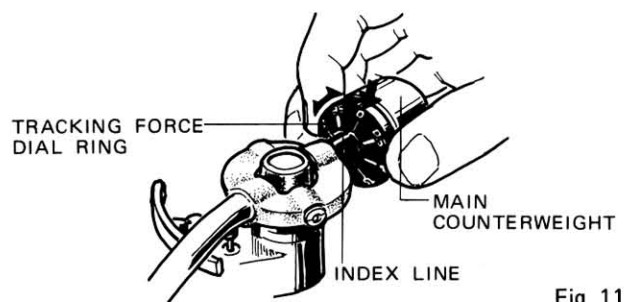

Fig. 11
6. Keeping the weight in this position, turn only the tracking force dial ring so that the zero aligns with the white index line on the tonearm (Fig. 11).